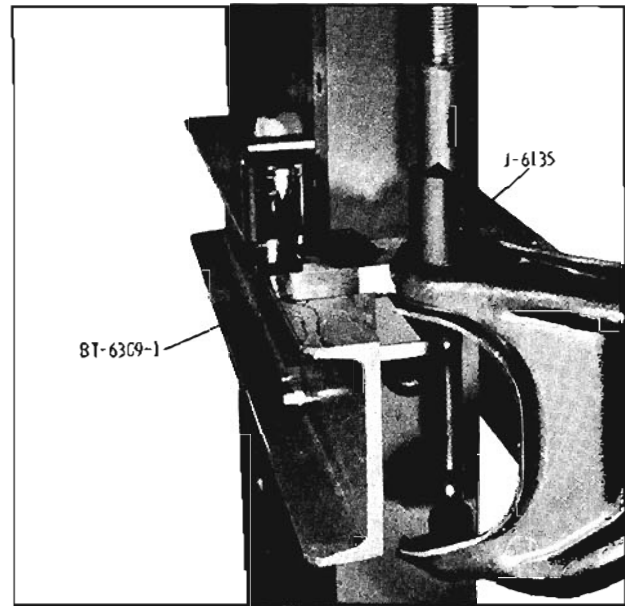

Fig. 9-16 Installing Bushing
5. To install bushings, place pivot shaft in control arm and press new bushing into control arm and over end of pivot shaft. (Fig. 9-16)